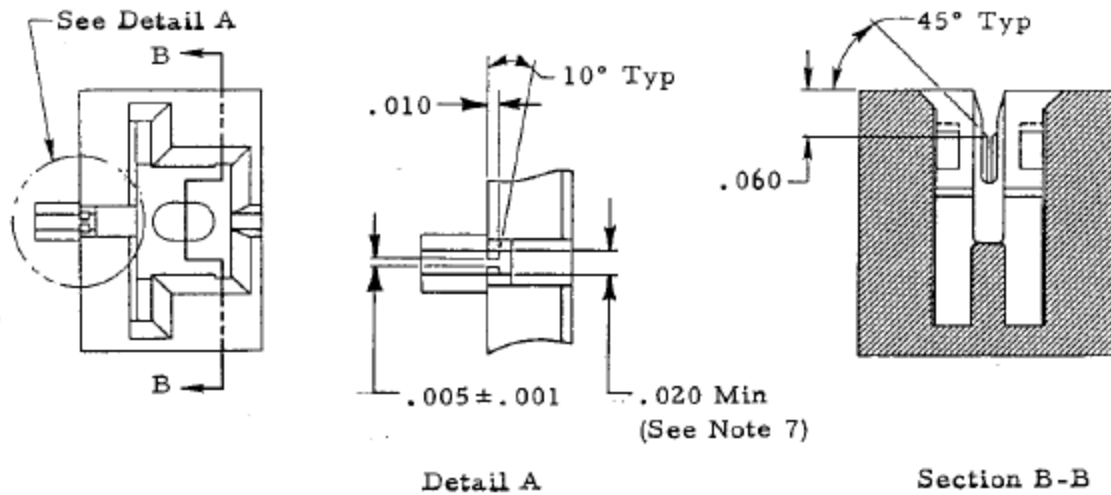
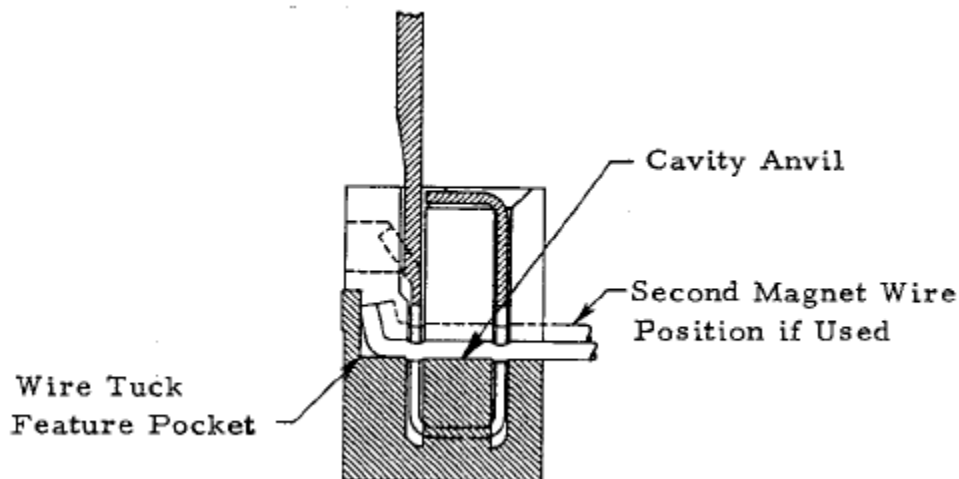

Figure 4
Figure 8
Cavity option 3 contains a controlled flash to retain a broad range of magnet wire sizes in the cavity prior to terminal insertion. In addition, the wire tuck feature as specified in cavity option 2 may also be used in conjunction with cavity option 3. See Figure 4.
2. Magnet wire shall contact top of cavity anvil as indicated in Figure 8 when terminals are inserted in cavity design options 2 and 3 (see Figure 3 and Figure 4) which contain a wire trim support and wire tuck feature pocket. These cavities contain a wire trim support on which the magnet wire rests prior to terminal insertion, and is removed during the application process. After termination the magnet wire is positioned within the confines of the wire tuck pocket as indicated in Figure 8.